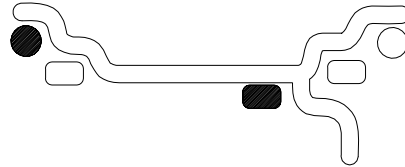

Figure 17
See (Figure 14). Pressing the weight selection button (9) will toggle the LED's to the weight default selections as shown. Balancing using a combination of hammer-on and adhesive weights as shown in Figure 17.